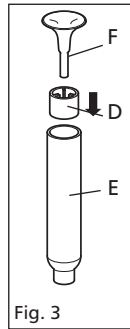

Fig. 3
- Locate the Bell Support (D) to the Bell Main Body (E) and push fully home.
- Position the Bell (F) to the Body Assembly and press into the central location. See Fig 3.